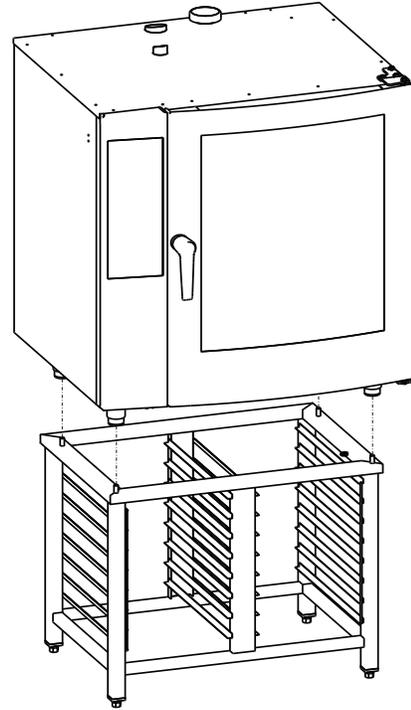

Figure: 12
- When setting the equipment, pay attention to the pegs on the stand. Verify pegs fit inside of holes in legs (see Figure 12).